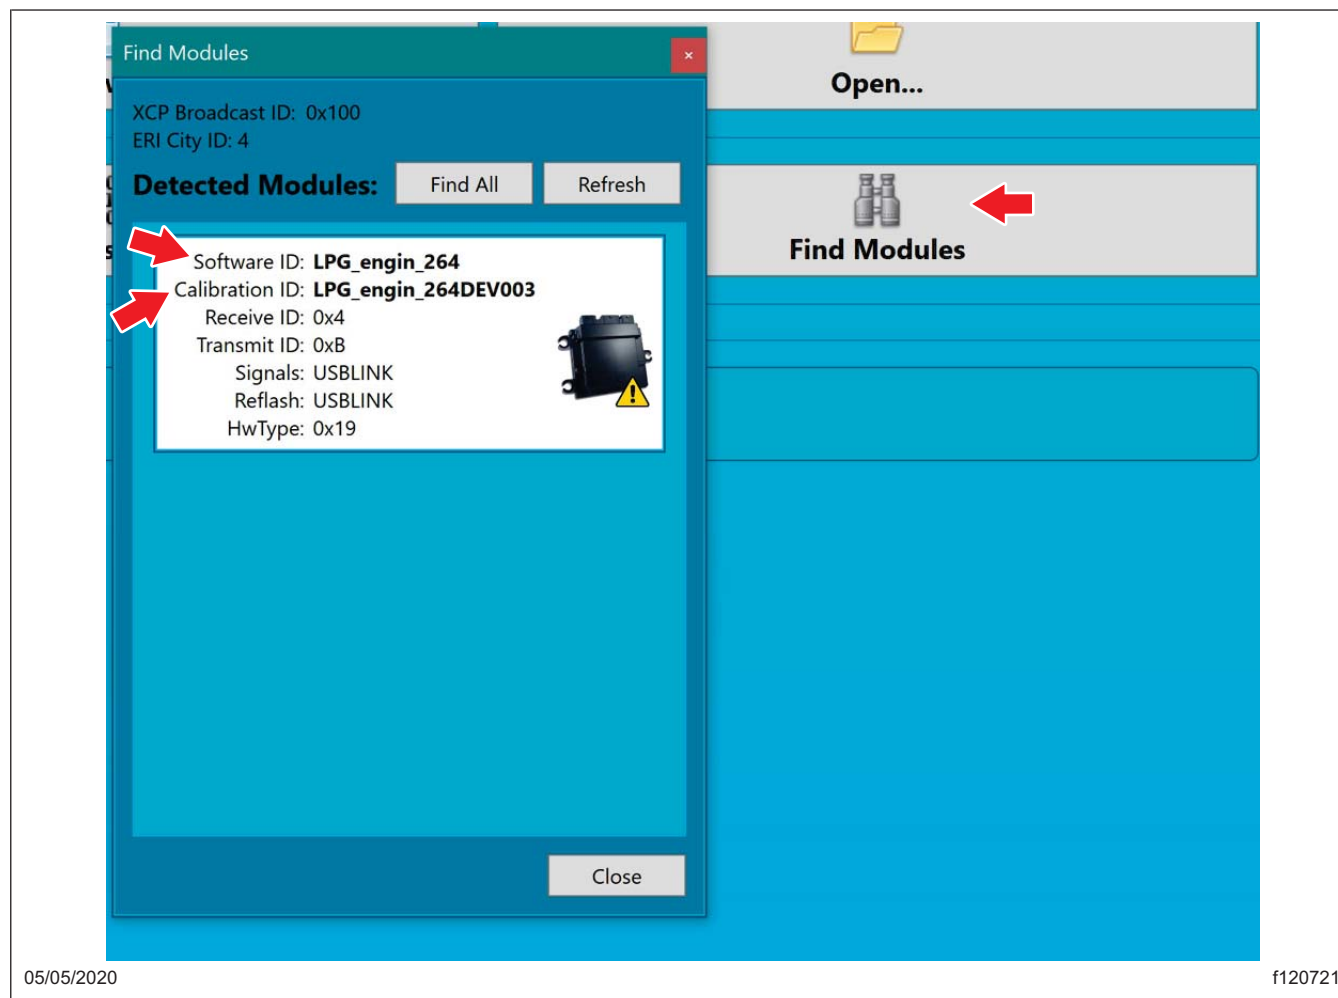

Fig. 24, Find Modules Window
3. Select 'Find Modules'; all of the available modules appear in the window. See Fig. 24.
4. Write down the 'Software ID and Calibration ID' (near the ECU image). See Fig. 24.